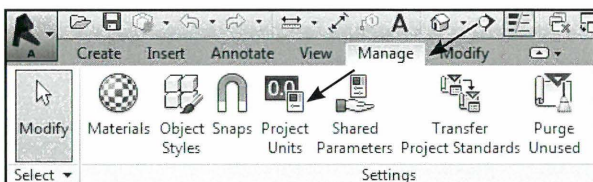

Fig. 02.12. *Manage* - *Project Units*.
- Klik *Manage* - *Project Units* (Fig. 02.12).